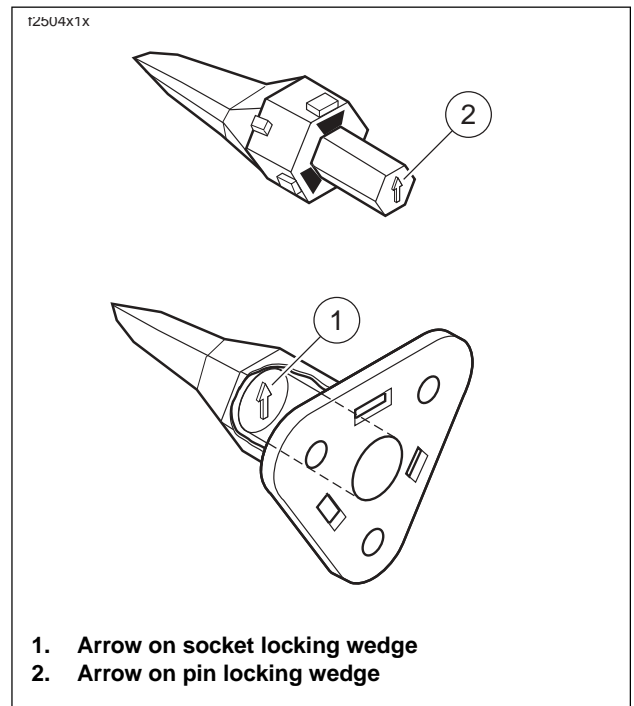

Figure B-10. 3-Place Locking Wedges
- See Figure B-10. While rectangular wedges do not require a special orientation, the conical secondary locking wedge of the 3-place connector must be installed with the arrow (1) pointing toward the external latch.
- See Figure B-10. While rectangular wedges do not require a special orientation, the conical secondary locking wedge of the 3-place connector must be installed with the arrow (2) pointing toward the external latch.